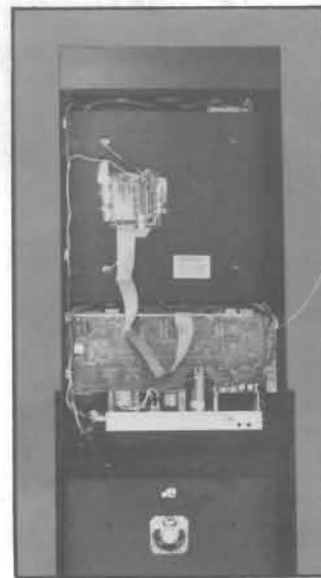

Figure 8A. Rear view of 5000 Series game machine.
The rear views of the 5000 Series game (figure 8A) show exposed views of boards used in the game machine: (1) Main CPU Board; (2) Target Interface Board; (3) Lampboards; (4) Power Supply Board. These boards are described in paragraphs 4.2 through 4.5.